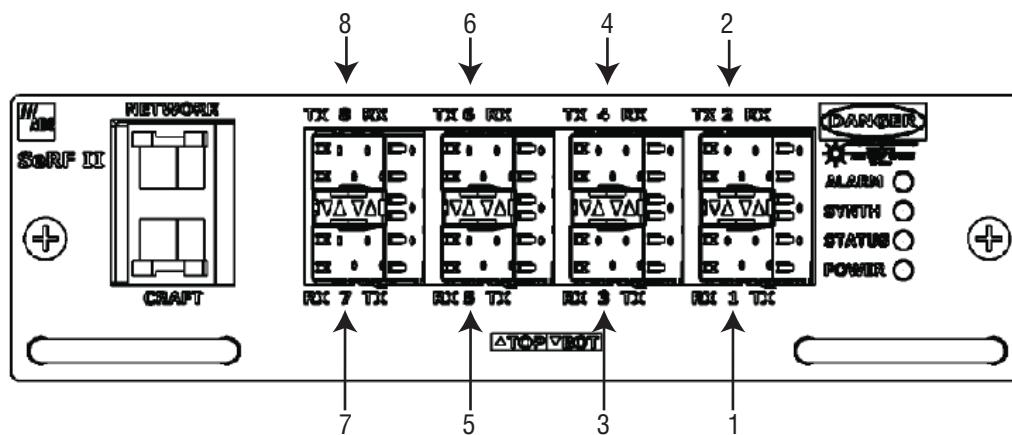

Figure 30. Host SeRF Optical Port Assignments
- 5** fwuModuleNumber, as shown in Figure 30